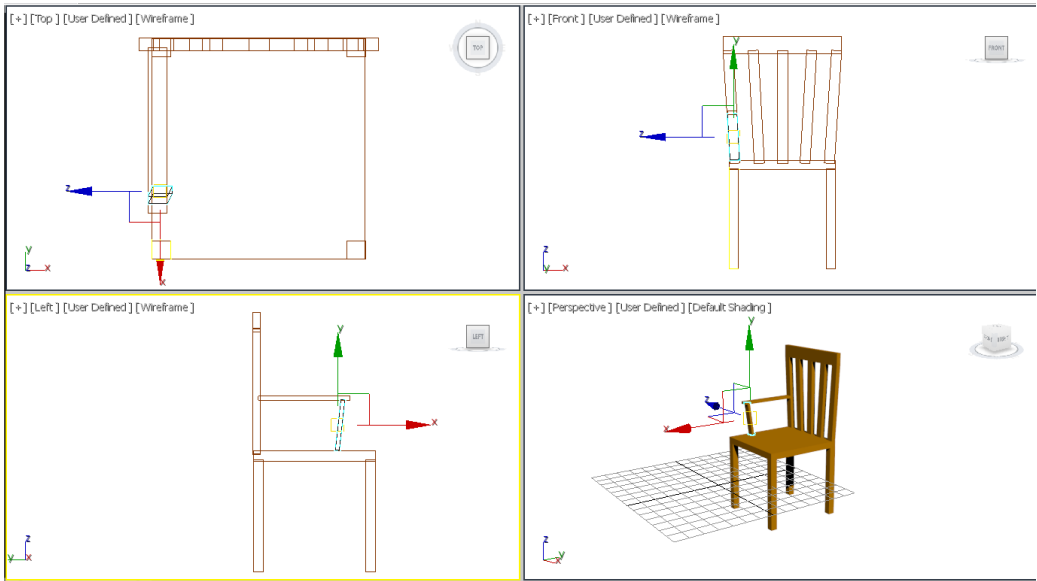

Figure 2-64 Alignment of box in the viewports
16. Create one more box in the Top viewport and enter the values in the **Parameters** rollout, as given next (adjust the dimensions if required) and then align it with the box created in step 16, as shown in Figure 2-64.